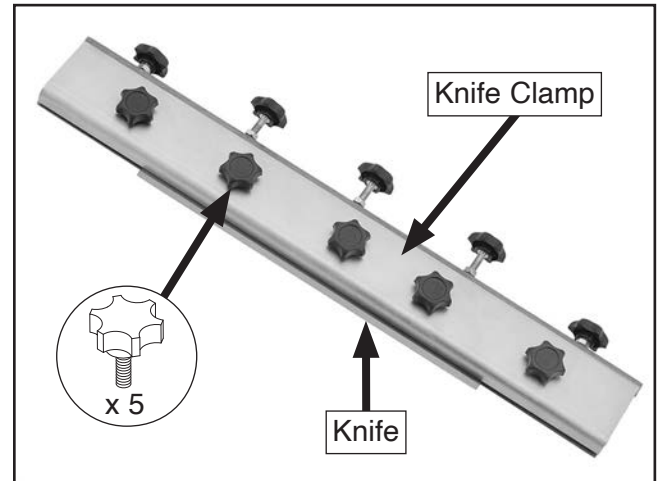

Figure 21. Knife clamped to slide bar.
7. When you are satisfied that knife extends beyond slide bar the same amount along its length, and supporting adjustment knobs are all making even contact with back of knife, tighten jam nuts and attach knife clamp to slide bar with (5) $\frac{1}{4}$ "-20 x $\frac{7}{8}$ " knife clamp knobs (see **Figure 21**).